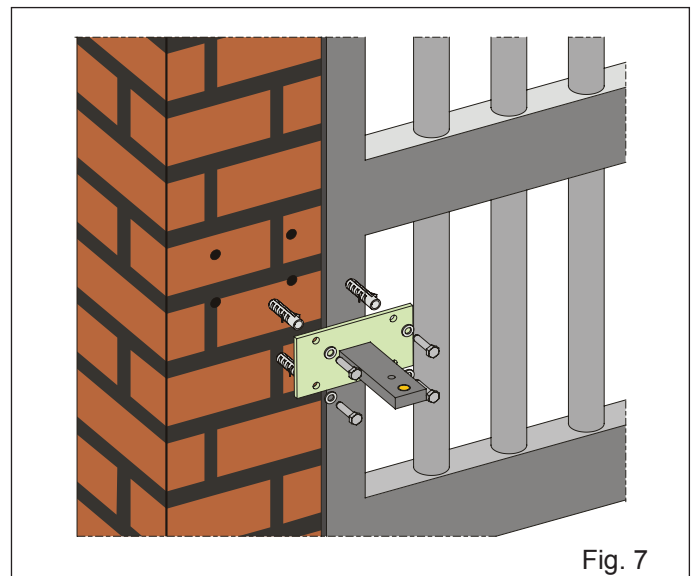

Fig. 7
- For masonry pillars, use a suitable plate (optional) for which to attach the unit (Fig. 7). Make use of a suitable fastening system. Then carefully weld the bracket to the plate.